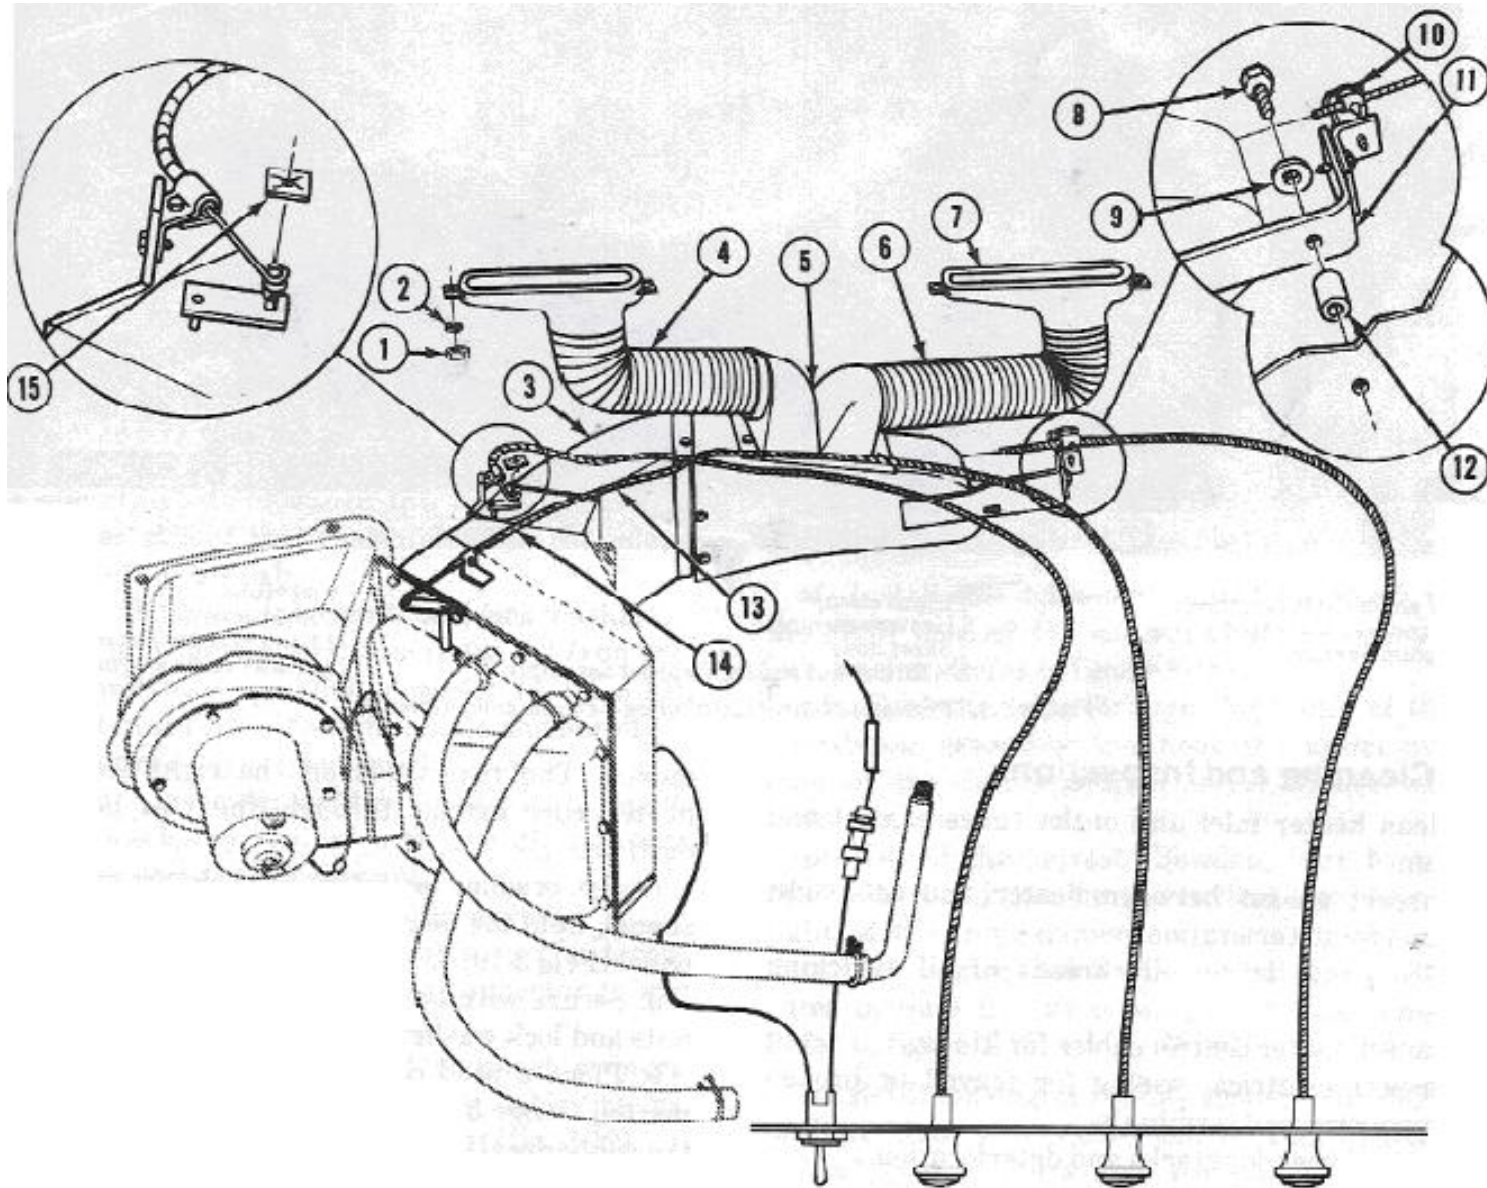

FIGURE 33-F5-Fresh Air Heater and Defroster, Front View
- h. Secure with two each 10-24 Hex Nuts and lock washers. (Refer to Fig. 33-F5.)